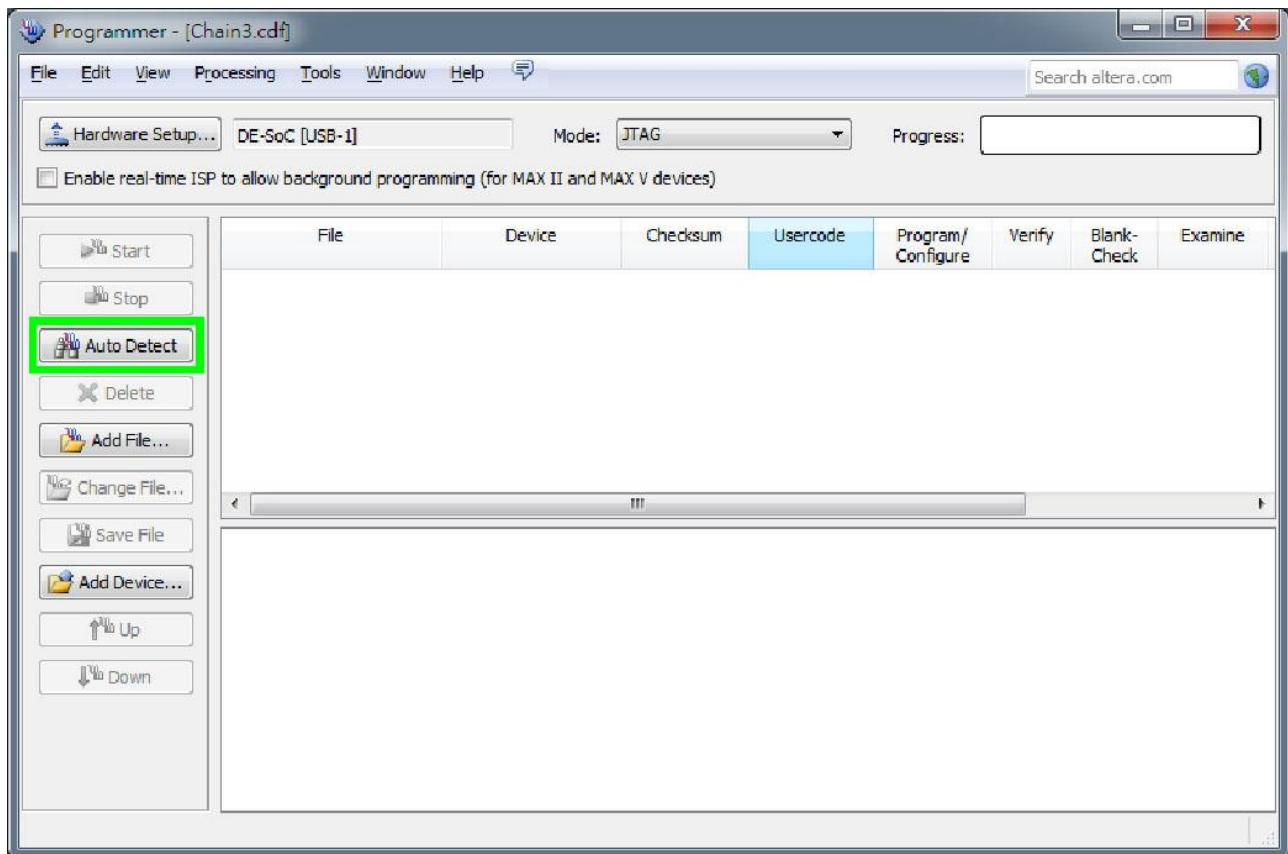

Figure 3-3 FPGA JTAG Programming Steps 1
- Open Programmer and click “Auto Detect” as Figure 3-3